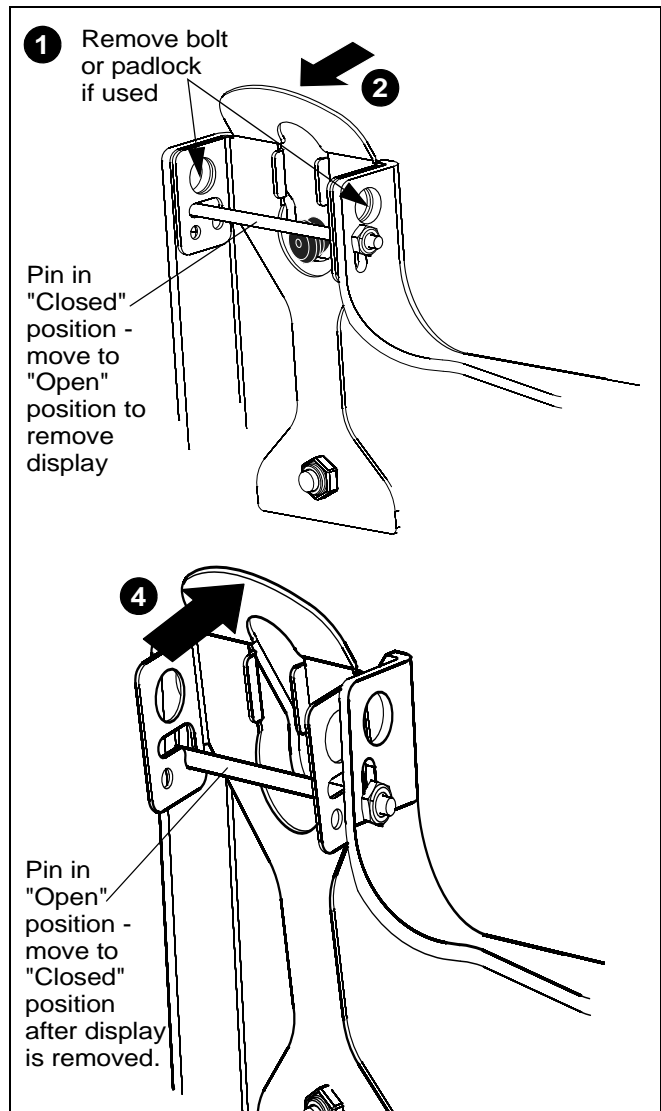

Figure 13
1. Remove bolt or padlock from faceplate (if used). (See Figure 13)
2. Pull back on flag on upper mounting hole and press pin down into "Open" position. (See Figure 13)
4. Lift up on pin and place flag back against faceplate to return it to "Closed" position. (See Figure 13)